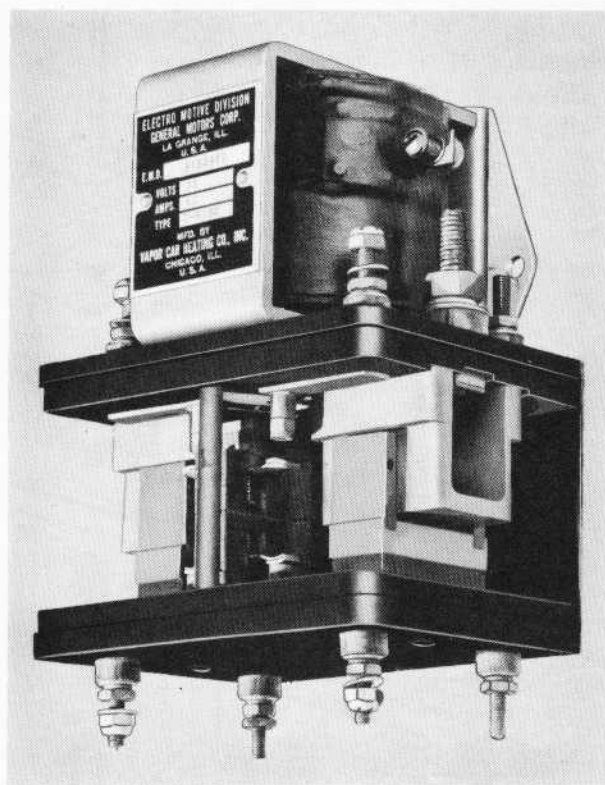
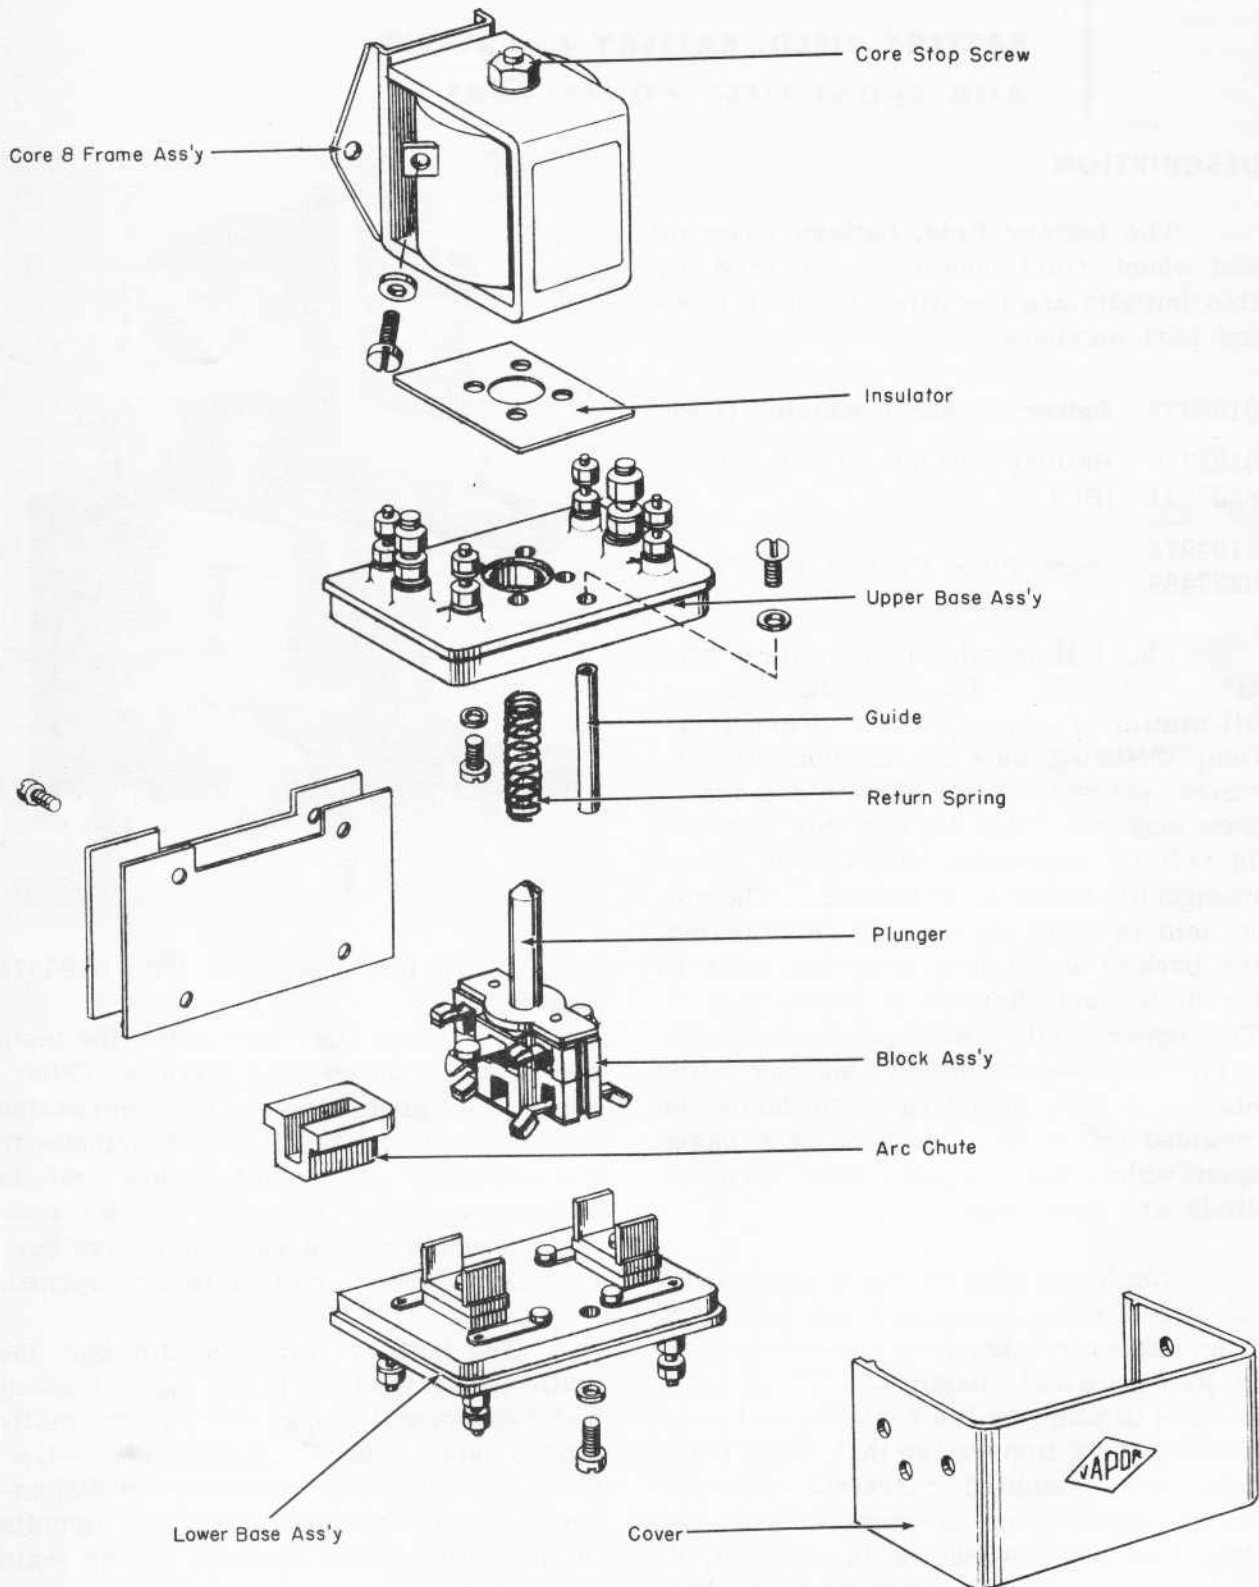

Fig. 1 - Battery Field Contactor 8184973
Fig. 2 - Exploded View
Fig. 1 illustrates battery field contactor 8184973. These contactors are all similar in appearance and construction, differing only in the number, arrangement and ratings of main and interlock contacts. All have a top mounted 74 volt DC operating coil that is interchangeable between contactors. The coil is held in place by a metal relay frame, the back of which is a mounting plate to facilitate installing on a panel, Fig. 2. The upper and lower portions of the relay are separated by an insulating plate. A back mounting plate holds the moulded upper and lower contact bases upon which the contacts and terminal studs are assembled.
The movable main contacts and auxiliary interlocks are assembled into one block assembly, Fig. 2. A metallic plunger extends upward from this block assembly. When the coil of the contactor is energized, this plunger is attracted upward overcoming the tension of a return spring. As the block assembly moves upward, the main contacts close and the auxiliary interlocks change position according to the design of the differ-
ent model contactors. The movement of the block assembly is guided by a vertical guide pin at the center of the lower portion of the contactor, Fig. 2.
2. Apply a variable voltage across the coil of the contactor. Adjust the contactor pickup and dropout by means of the core stop screw, Fig. 2. Pickup should be 48 V. maximum and dropout 5-28 V. maximum.